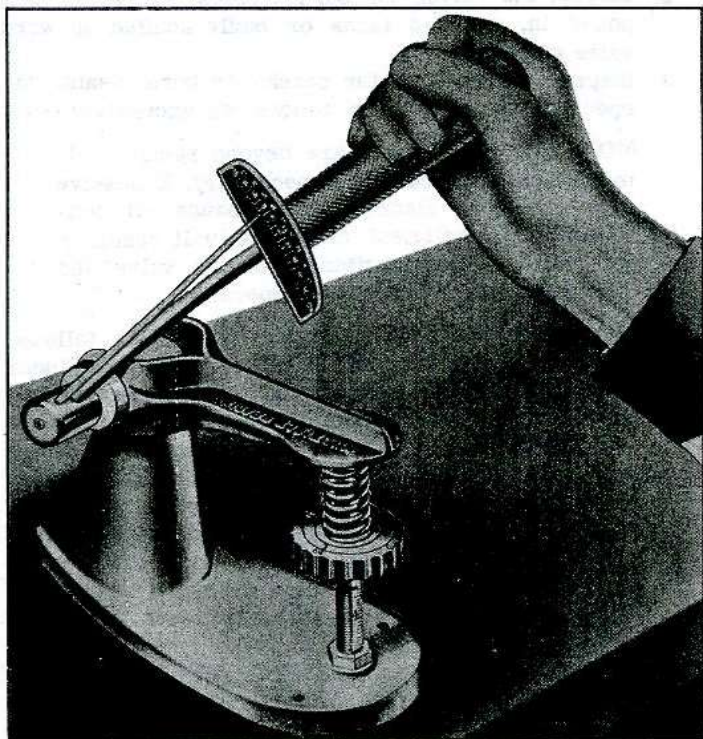

Fig. 83—Checking Valve Spring Tension
5. Check valve spring tension with Tool J-8056 (fig. 83).